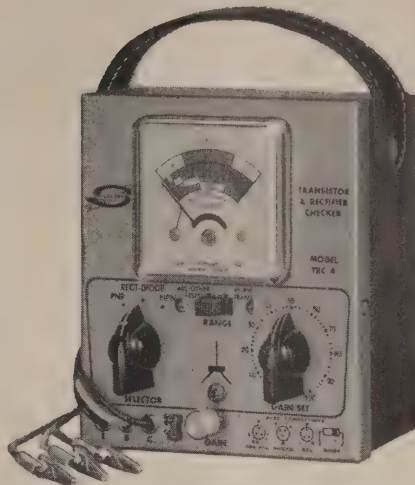

FIG. 1. SENCORE TRC4 Transistor Rectifier Checker. Used and recommended by leading distributors and dealers all over the world.
1. Preset the SELECTOR switch and GAIN SET controls according to the charts in the rear. See Fig. 1